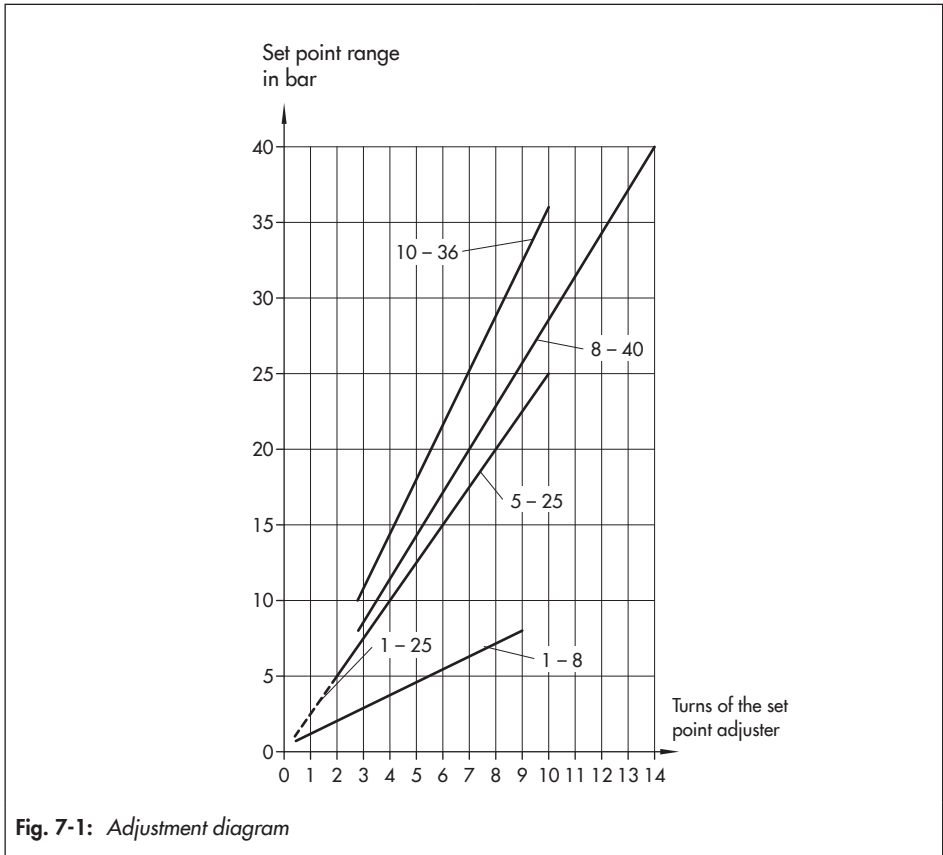

Fig. 7-1: Adjustment diagram
Every pressure regulator is delivered with the set point listed in Fig. 7-1 already adjusted.
When a pressure gauge is not installed, adjust the set point using the adjustment diagram Fig. 7-1.
2. Determine the difference between the preadjusted set point (Fig. 7-1) and the required set point. Turn the set point adjuster (10) the required amount of turns as specified in Fig. 7-1.
Any subsequent change to the set point can be also be made by determining the required number of turns using the specifications listed in Fig. 7-1.